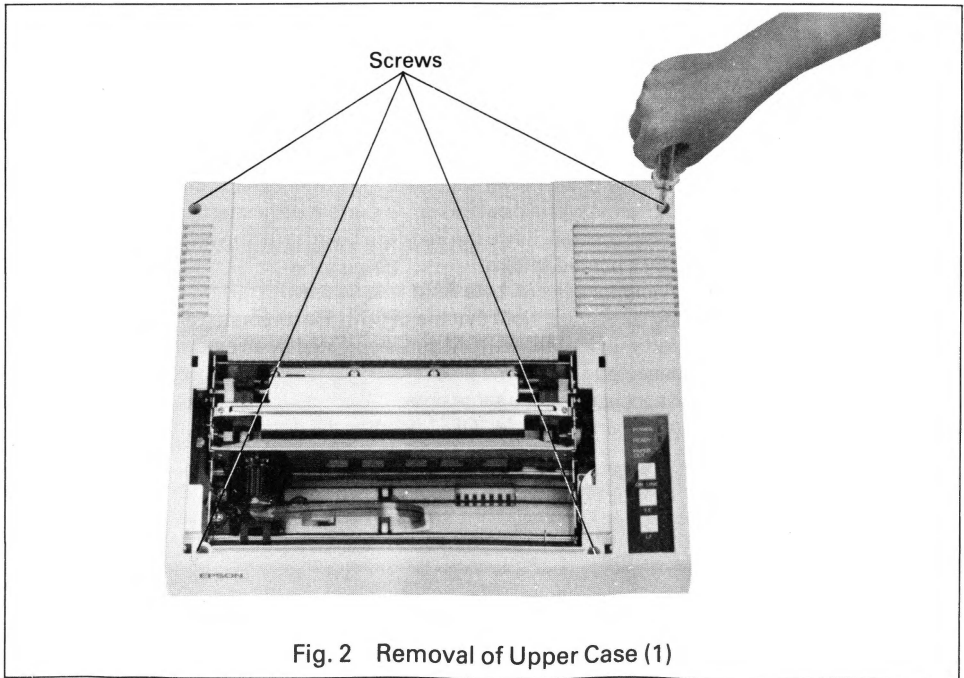

Fig. 2 Removal of Upper Case (1)
- (2) Pull and remove the manual paper feed knob.
- (3) Remove the four screws shown in Fig. 2.